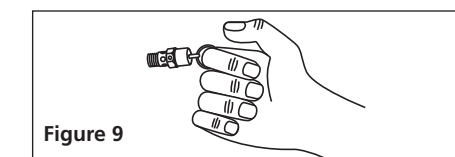

Figure 9
- Pull ring on safety valve and allow the ring to snap back to normal position (See Figure 9). This valve automatically releases air if the tank pressure exceeds the preset maximum.